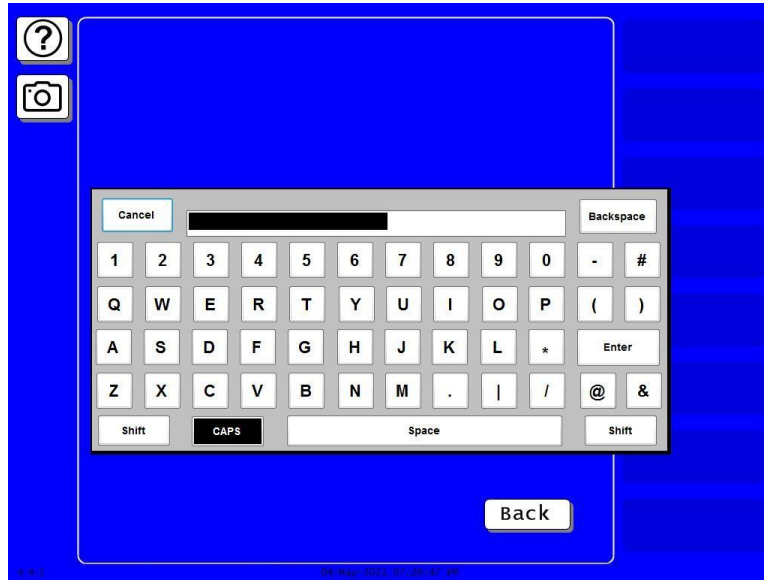

Figure 6-3. Entry Keyboard for Global Sensor Name
- To add a new global sensor name, press NEW ENTRY. An entry keyboard appears, Figure 6-3.